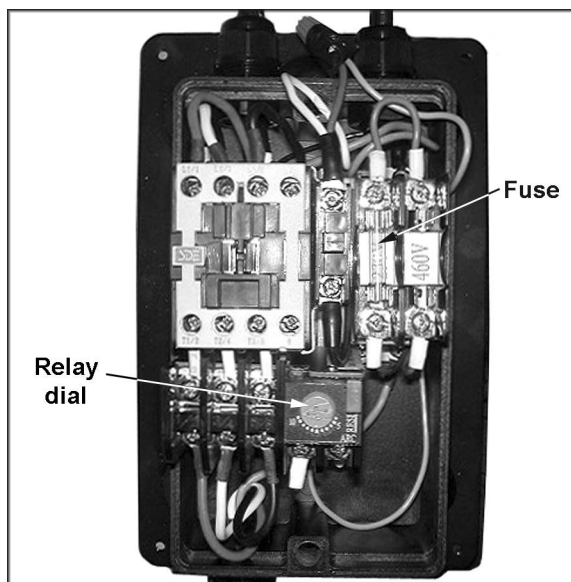

Figure 10
1. Remove the starter box cover and adjust the dial on the relay (see Figure 10) as close as possible to the amperage of the Jointer motor at 460V, as listed on the motor plate.
2. Move the fuse (Figure 10) from the 230V slot to the 460V slot.